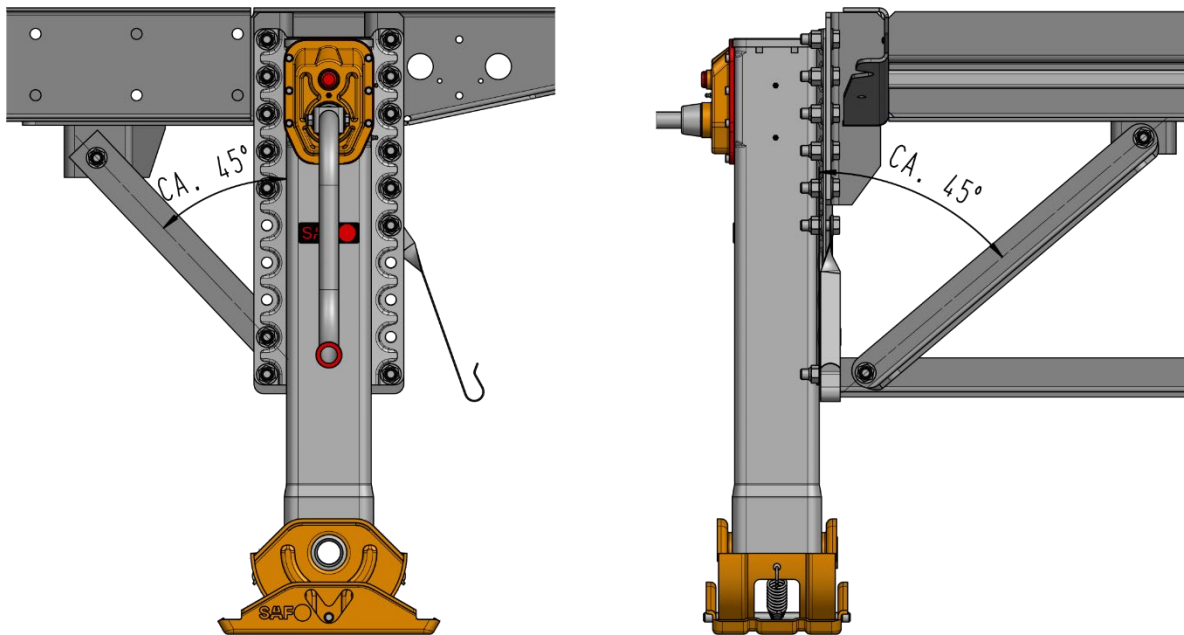

Figure 30 In the direction of the trailer
- The bracing of the landing gear must be designed as shown in the diagram and described on page 28, Fig. 30.
A bracing angle of 45 degree is recommended in order to optimally transfer the forces into the chassis. See Fig. 30.